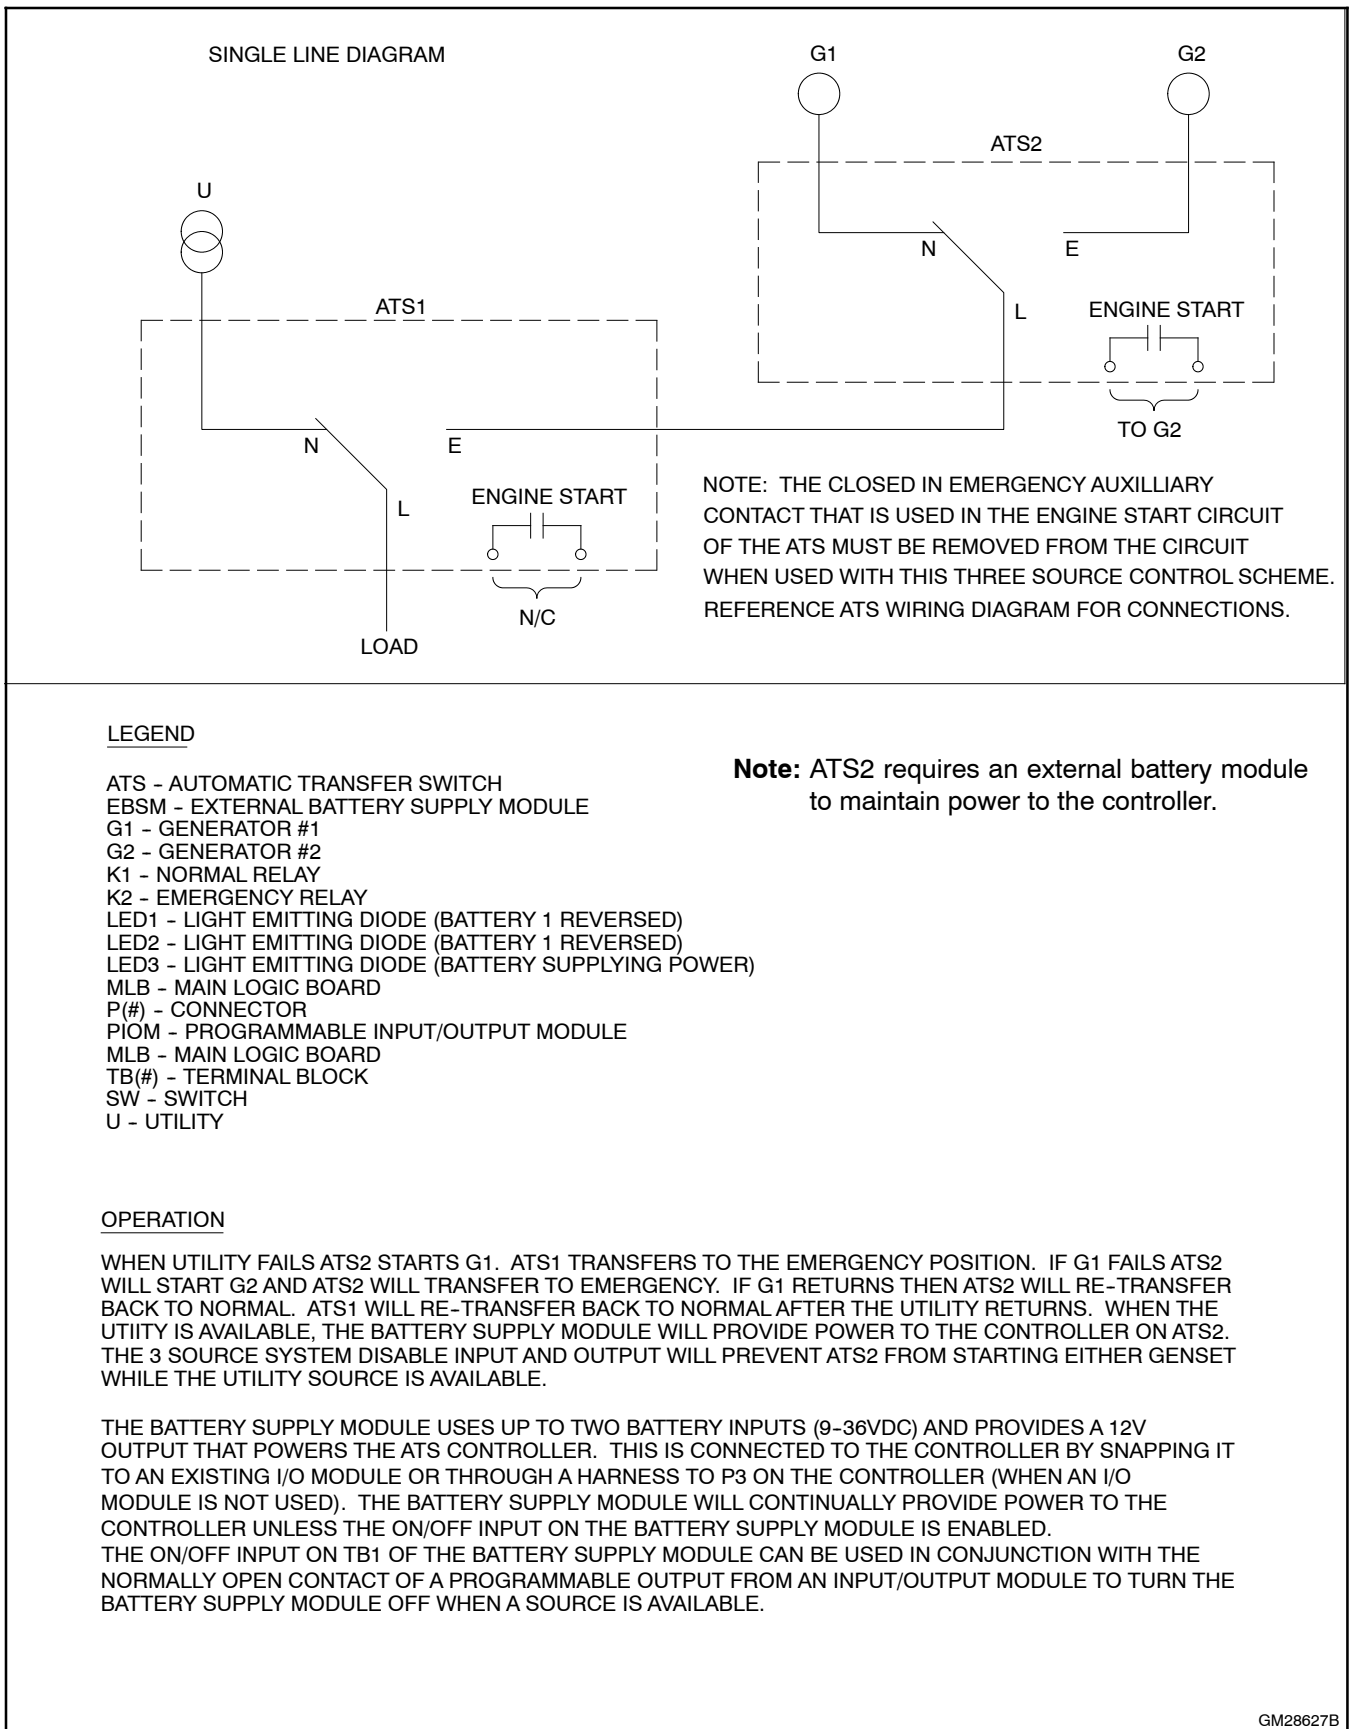
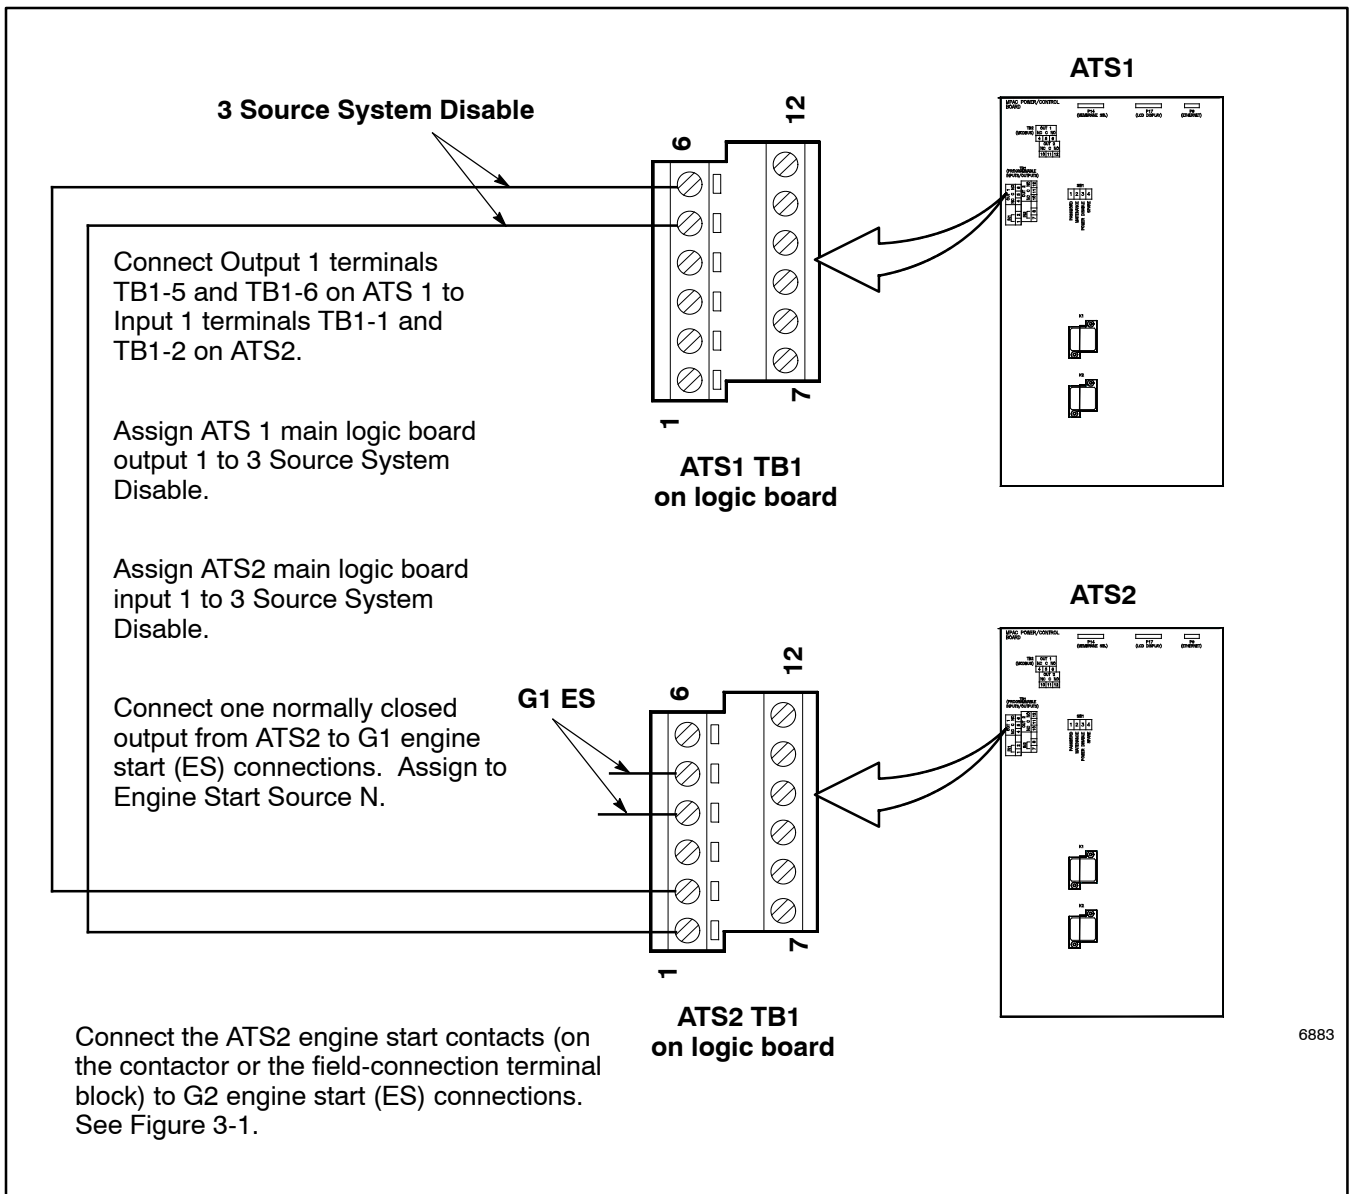

Figure 3-1 Three-Source System Transfer Switch and Source Connections
Figure 3-2 Input and Output Connections for Three-Source Systems
A three-source system provides the means to connect a utility and two generators to a single load. See Figure 3-1. Two generators and two transfer switches are required.
See Figure 3-1 and Figure 3-2 for connections during the following steps.
1. Connect the power sources to the transfer switches as described below. Refer to the transfer switch dimension drawing or specification sheet for cable sizes. See Figure 3-1 for connections.
commands for generator sets 1 and 2. Observe the polarity of all connections shown in Figure 3-2. Use wire sizes from #14 AWG to #20 AWG for EBSM and I/O module connections.
- b. Connect one ATS1 programmable output from the controller to one ATS2 main logic board programmable input as shown in Figure 3-2. This I/O connection will be set to Three-Source System Disable.